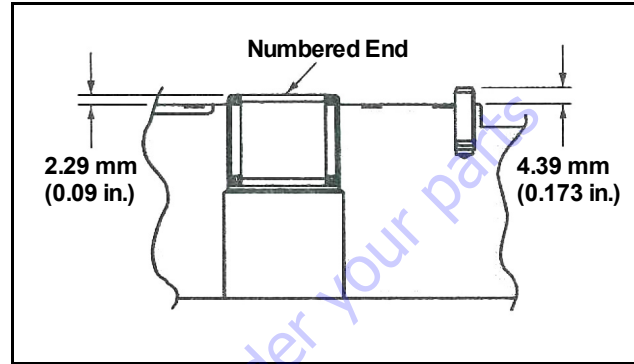

Figure 5-112. Endcover Inspection
- Check the bearing (press fit) in endcover. If needles remain in cage, move freely, and setting is at the dimension shown in Figure 5-112. removal not required.
- Check roll pin in endcover. If tight and set to the dimension shown in Figure 5-112. removal not required.